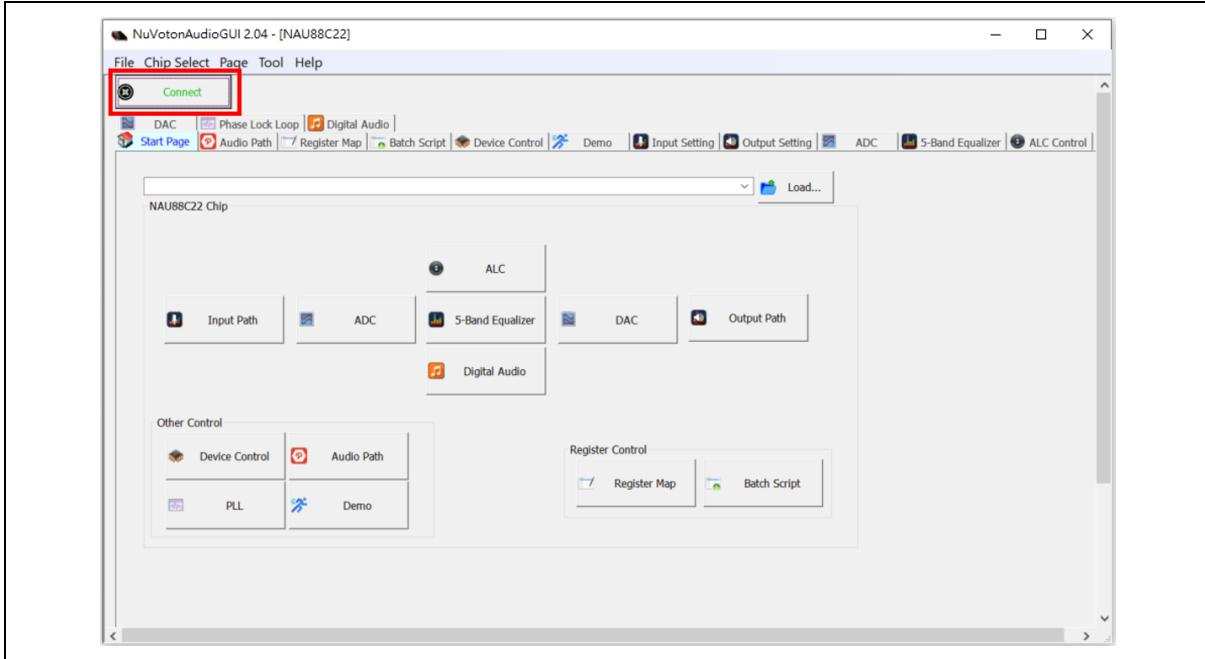

Figure 3-6 NuvotonAudioGUI Operating Step (3)
- NuvotonAudioGUI will automatically read connection status. If the hardware and software are properly configured, a green [Connect] will appear on the upper left corner of the NuvotonAudioGUI window, as shown in Figure 3-6. Then users can issue I²C commands through NuvotonAudioGUI to control NL-NAU88C22.